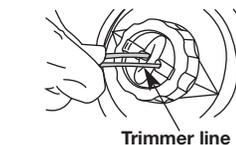

Fig. 34
2. Using 10 ft. (3 m) of 0.095 in. (2.41 mm) replacement line push both ends of the line through the holes in the bump knob until they protrude through the eyelets on both sides of the cutting head. Continue pulling the line until approximately 5 ft. (1.5 m) is visible from both sides of the cutting head. (Fig. 34)